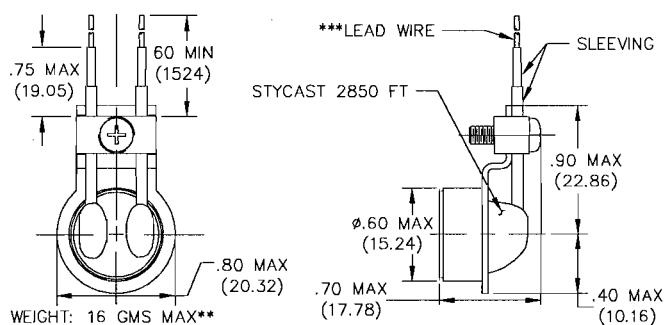

**Figure 7:**
- 707 = Tube Mount Adapter (See Figure 7)